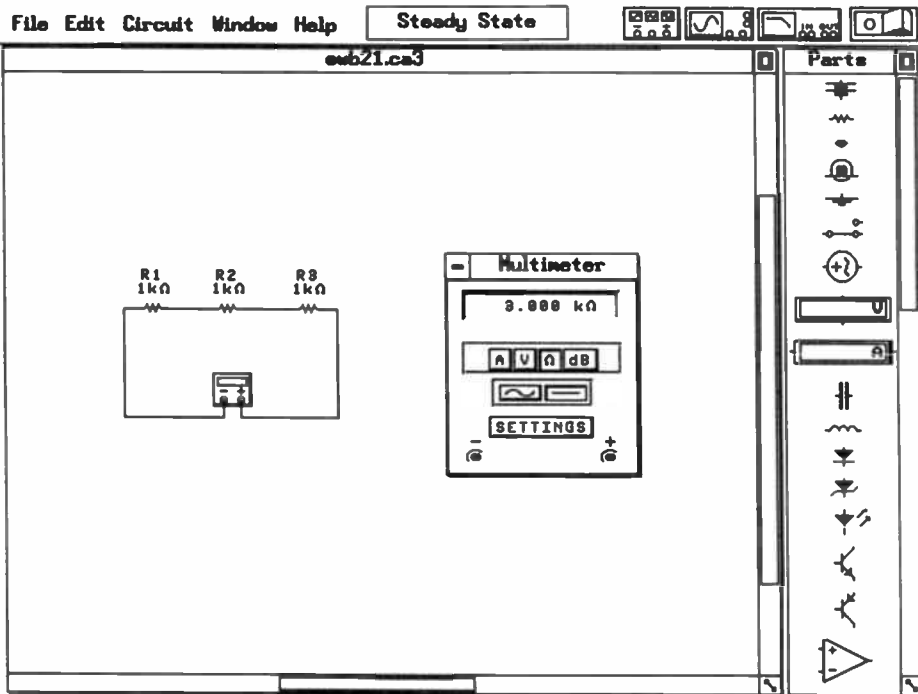

Fig. 1.19. Circuit for assignment 1.3 (measuring series resistances).
1. Connect the circuit shown in Fig. 1.19. Set each resistor to a value of "1kΩ". You will have to drag the autoranging multimeter from its position on the test equipment "shelf" into the work space area.
"3.000kΩ" (as in Fig. 1.19). Now determine the resistance of the circuit with: